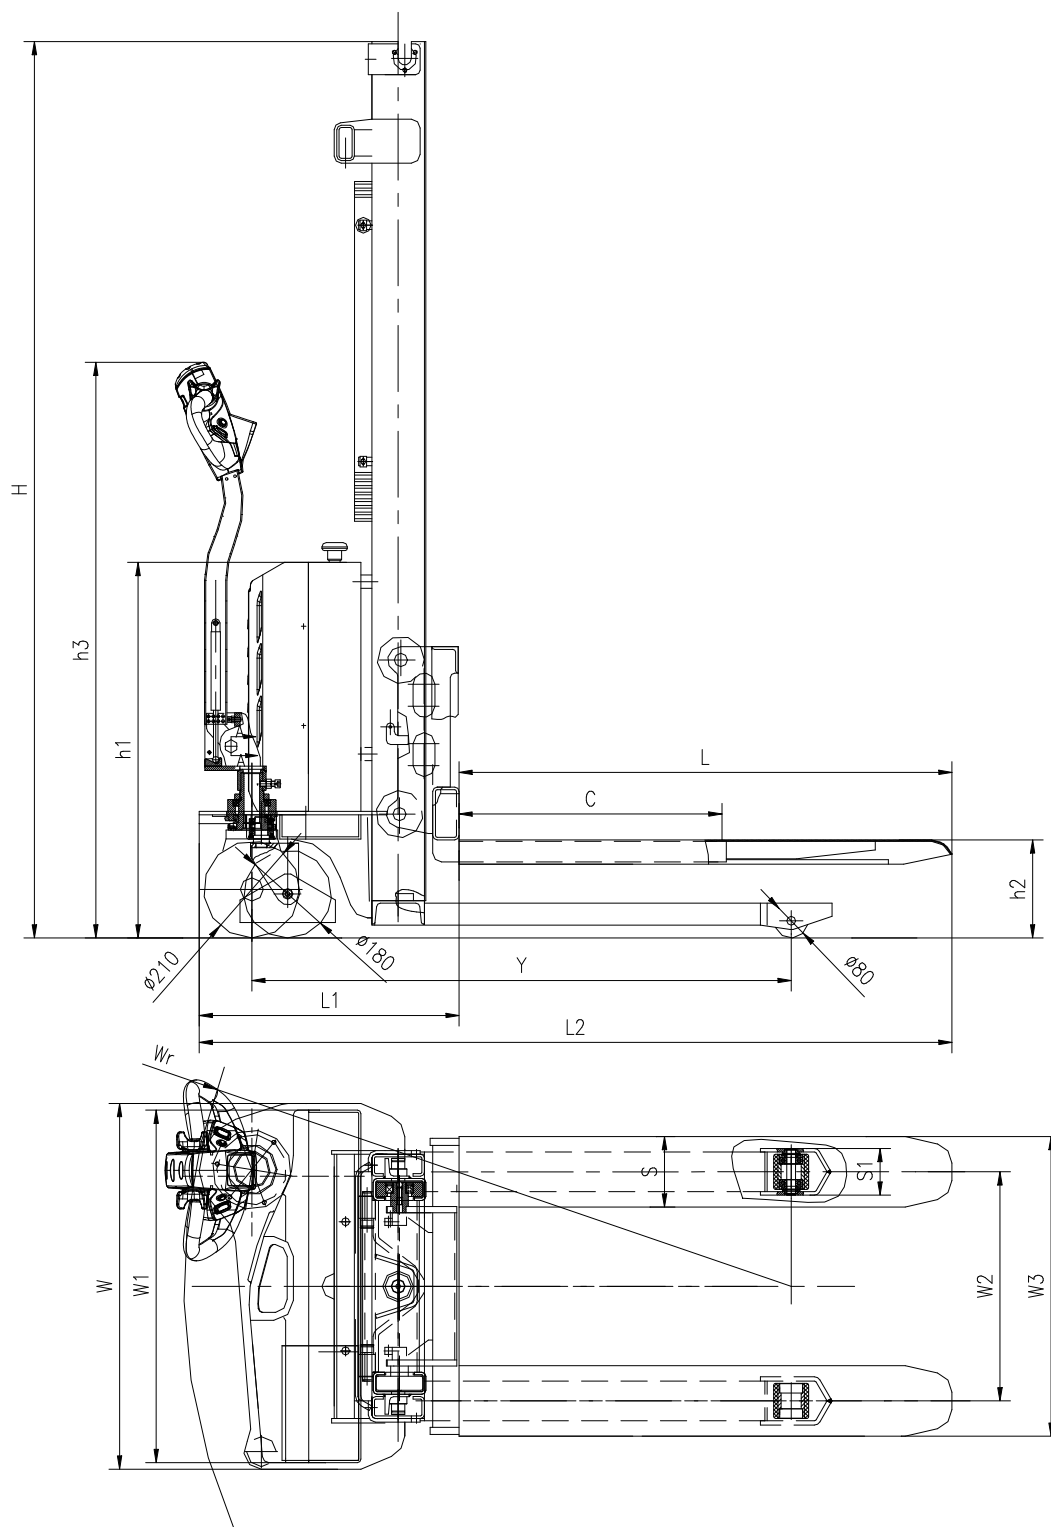

Figure 1
3.2 The basic parameters of the stacker are shown in Figure 1 and Table 1.